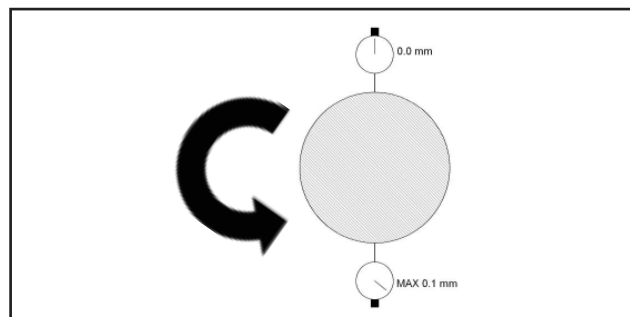

Figure 5b
2. Check the vertical alignment: set the dial indicator to the zero mark on the top of the coupling, rotate the motor shaft of 180 degrees and read the misalignment, MAX 0.1 mm (see **Figure 5b**).